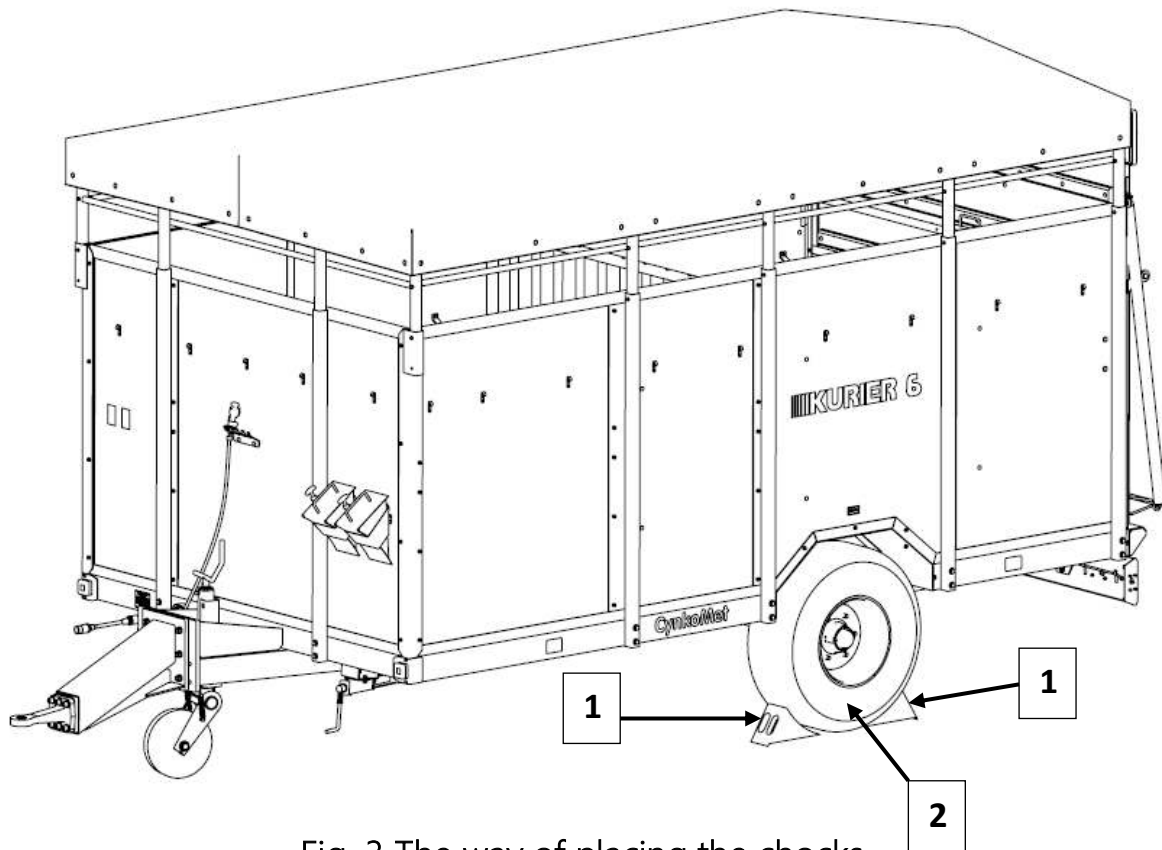

Fig. 3 The way of placing the chocks.
- It is forbidden to park on the slopes with a loaded and unsecured machine. Securing is based on stopping with the service brake, parking brake and planting chocks under the wheels. The chocks (1) should be planted only under one wheel (2) (one front wheel and one on the back - Fig. 3).